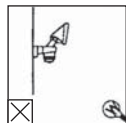

Fig. 18
- Avoid aiming the sensor towards objects which may move in the wind, such as bushes. (See Fig. 18).